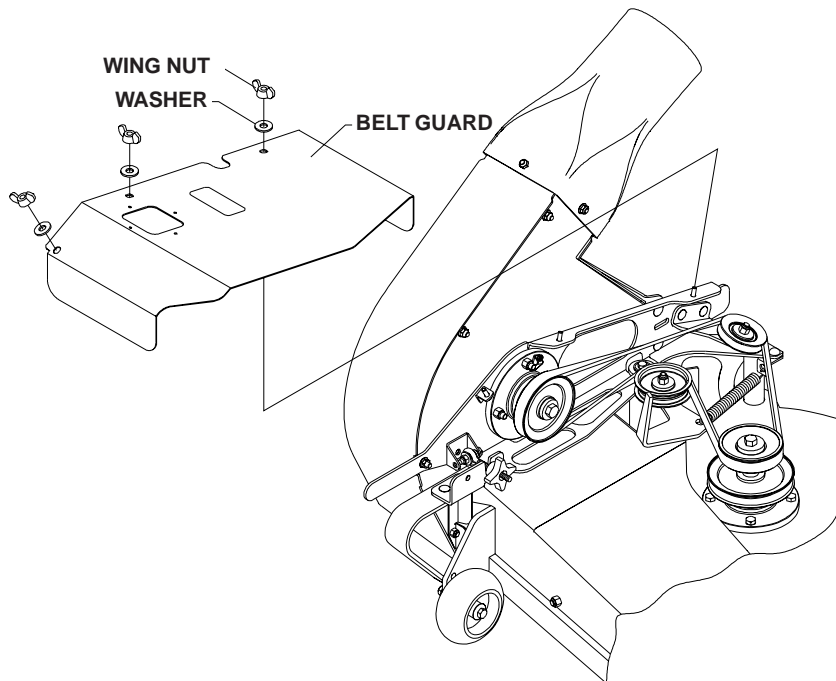

FIGURE 9
9. Install belt guard to blower assembly using three 1/4" washers and three 1/4" wing nuts. See Figure 9.